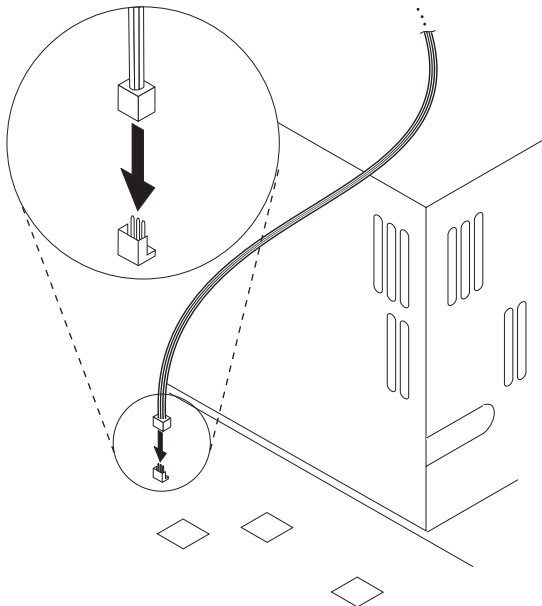

Figure 2-7. PC Wake on LAN Signal Connector (3-Pin)
- 3** With your PC cover off, locate the 3-pin Wake on LAN connector on the planar, as shown in Figure 2-7. Connect the other end of the 2-way combined Wake on LAN cable to this 3-pin connector. Make sure that the cable is below the riser bracket so that it does not become dislodged or damaged when you close or open the PC cover.